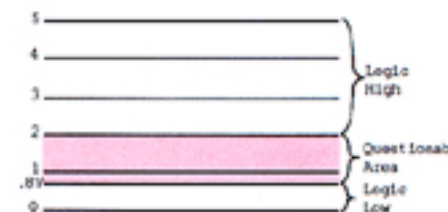

Fig. 2: A digital waveform using TTL logic levels should not fall within the questionable area.
Knowing the total peak-to-peak amplitude of digital signals is not enough. Figure 2 shows the requirements of a TTL waveform for correct operation. Note that
5. The logic low (step 3) should be less than 0.8 volts, and the logic high (step 4) should be greater than 2.0 volts. (see chart in figure 2)